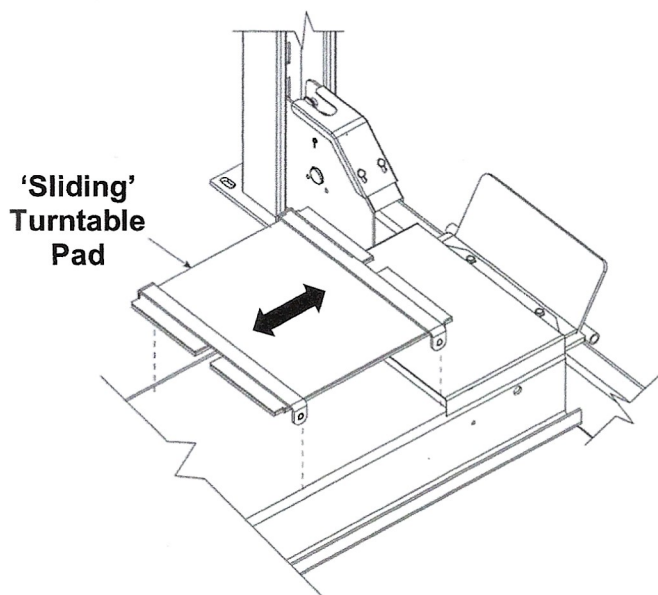

Fig. 3
- 4) Position the 'sliding' Turntable Pad (#3), so the front edge is positioned against the rear of the Front Spacer - Fig. 3.